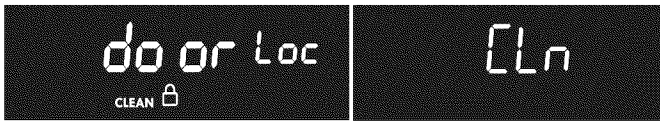

Figure 26: Door locking (L) and active Clean (R) shown
- Press **START** to activate Self Clean. As soon as Self Clean becomes active, a motor driven lock mechanism will begin locking the oven door automatically and door Loc will appear in the display (Figure 26 on page 24). Do not open the oven door when door Loc is displayed (allow 15 seconds for the lock mechanism to lock the oven).